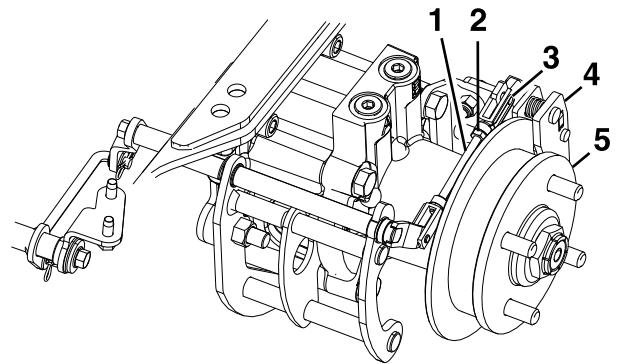

Figure 78
8. Remove the spring clevis pin from the rear linkage and caliper (Figure 78).
12. Tighten the jam nut on the rear linkage (Figure 78).